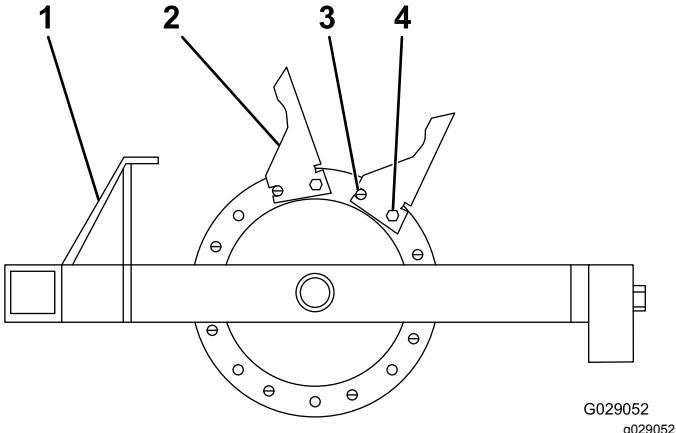

Figure 9
1. Start at the outside casting and install the tines as shown in Figure 9.
2. Install all 8 tines on the casting, using a roll pin and bolts (1/2 inch x 1-3/4 inches) and ensuring that the roll pin is in the front position (Figure 9).